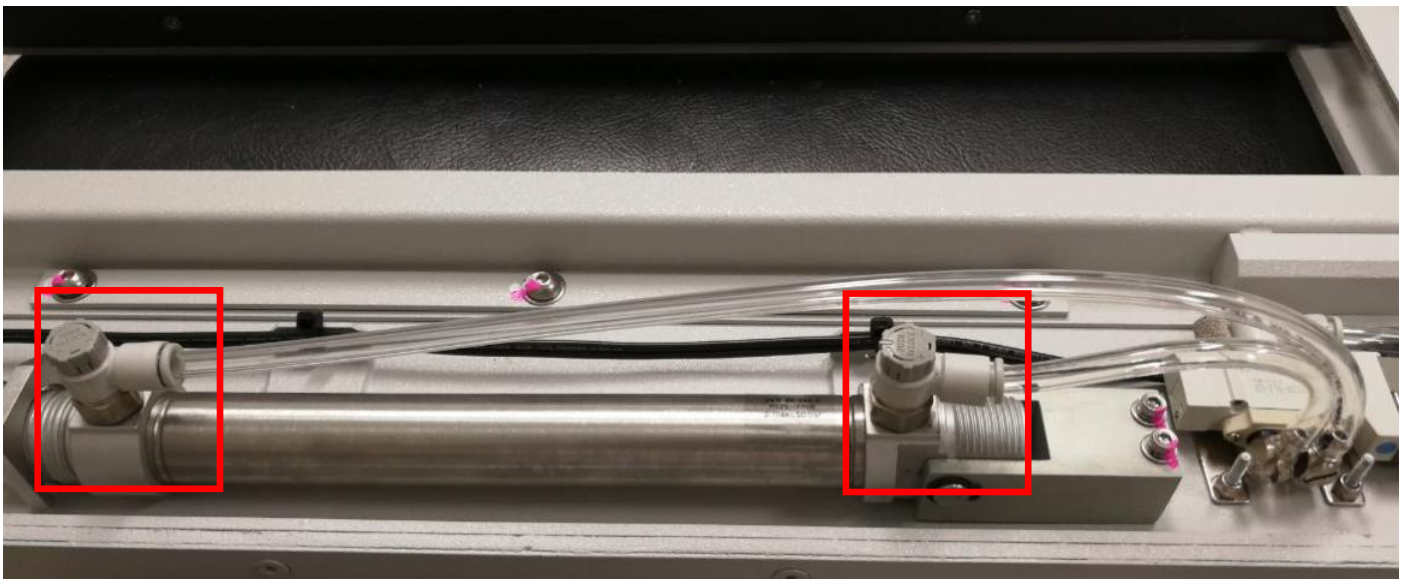

Figure 11
13. Assemble 2 x New Speed Controller (2820-0117) at outer barrier cylinder as Figure 11.